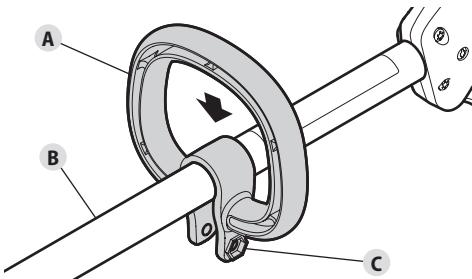

Fig. 8
- Push the handle (Fig. 8-A) down onto the upper shaft housing (Fig. 8-B). Make sure the hex bolt hole faces to the left (Fig. 8-C).